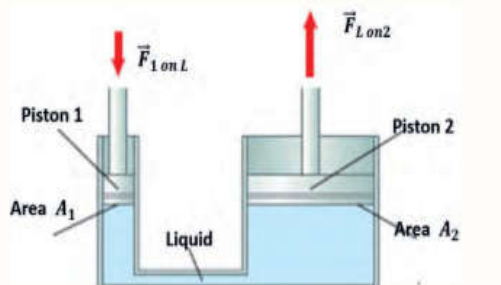

Figure 3.2 Schematic of hydraulic press
- Most of these devices work on the simple principle illustrated in Figure 3.2, although the actual devices are usually more complicated in construction.